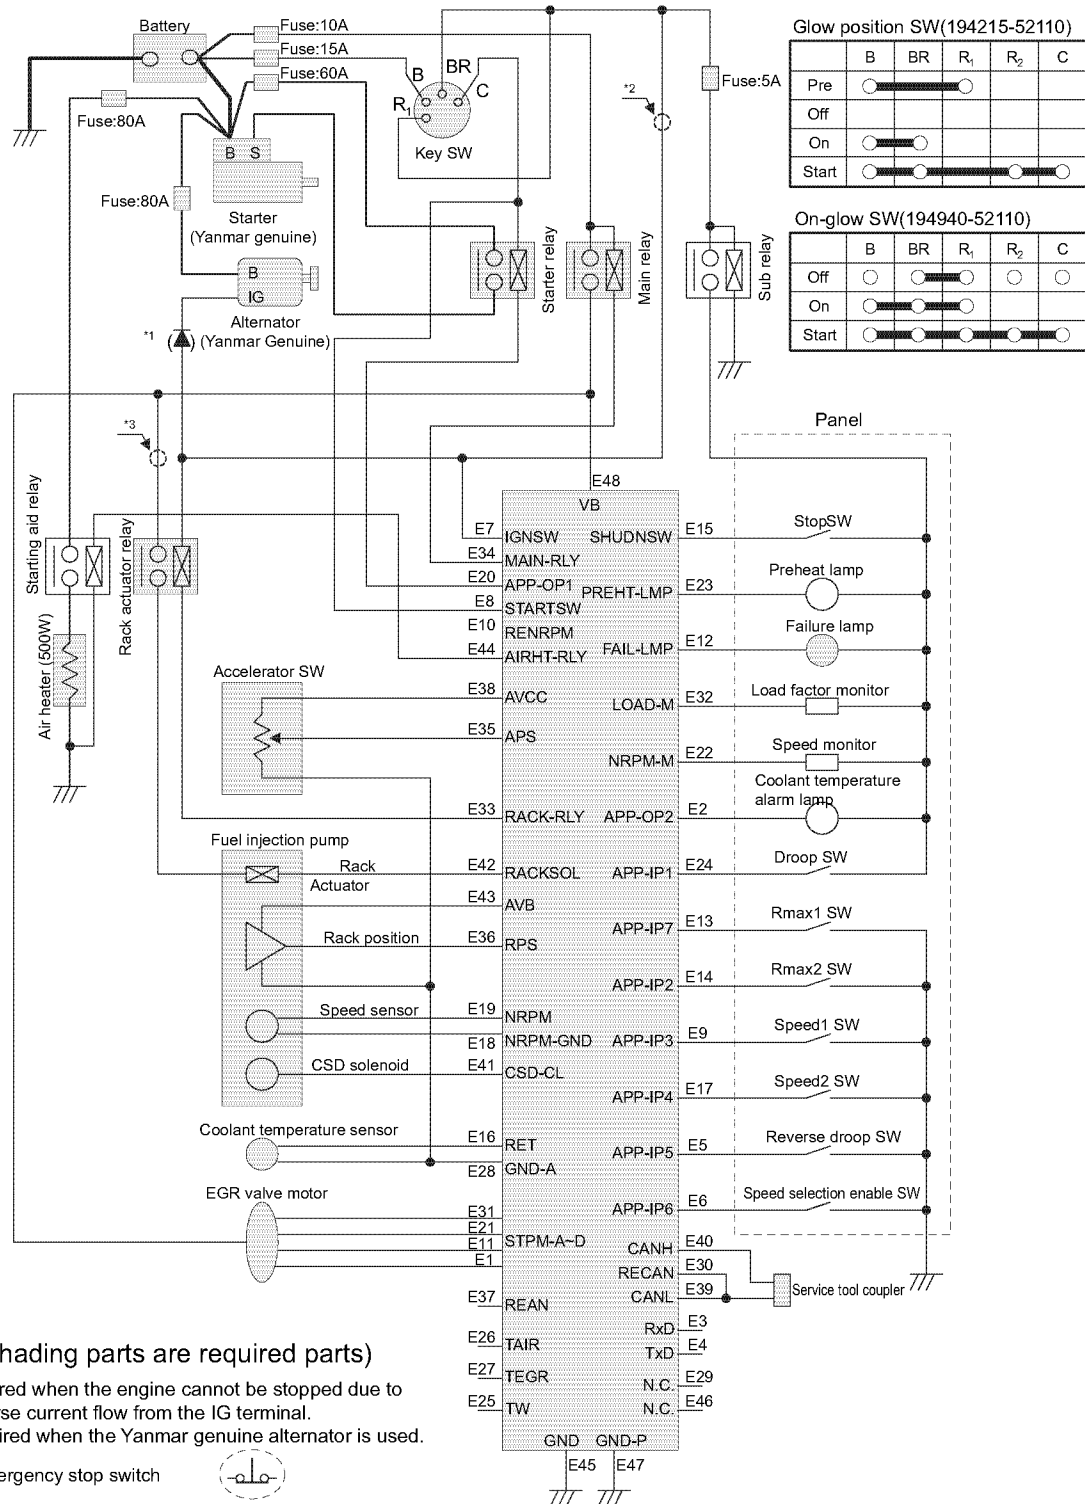

Fig. 14-4 The standard electrical connection diagram of the Eco-governor system
Fig. 14-4 shows the standard electrical connection diagram of the Gen2 Eco-governor.
The following describes each of the components shown in Fig. 14-4
(8) Accelerator sensor
(9) Coolant temperature sensor
(10) Panel switches and lamps
(11) About a diode to be inserted in alternator terminal IG
- The engine may be impossible to stop because the current generated by the alternator flows reversely from alternator terminal IG to the harness circuit. To avoid such a trouble, you should separate alternator terminal IG from the rack actuator excitation circuit or insert a diode (marked with an asterisk in **Fig. 14-4**) into alternator terminal IG in order to prevent reverse current from the terminal.